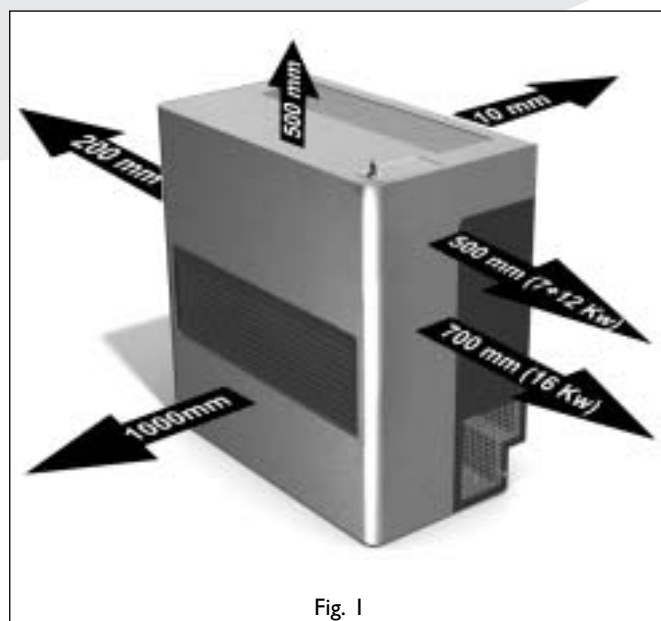

Fig. 1
- make sure the appliance has sufficient distance from other objects and materials (see fig. 1). The free space surrounding the appliance is necessary for a proper and safe operation and for accessibility in case of maintenance;
- Determine the location of the appliance; the dimensions can be found in fig. 1 and 2.